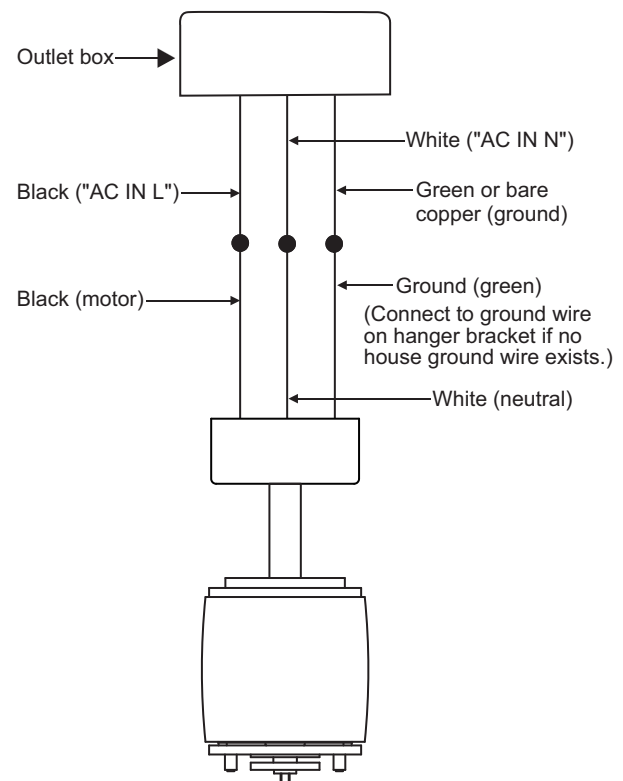

Fig. 13
Step 1. Connect the fan supply (black) wire to the black household supply wire as shown in Figure 13.